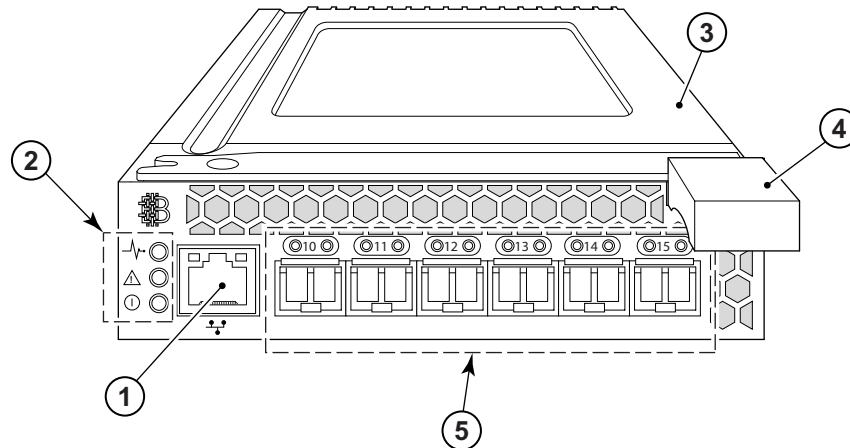
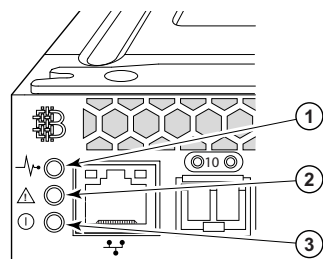

Figure 1-1 Port Side of the SilkWorm 4016
Figure 1-2 Nonport LEDs
Externally accessible ports and LEDs are on the port side of the switch. The port side faces out when the switch is inserted into a . Figure 1-1 details the switch's port side. For a complete description of the locations and interpretations of these LEDs, see “Interpreting LED Activity” on page 4-4.
The nonport (switch status) LEDs, shown as item 2 of Figure 1-1, display switch-level information as shown in Figure 1-2.